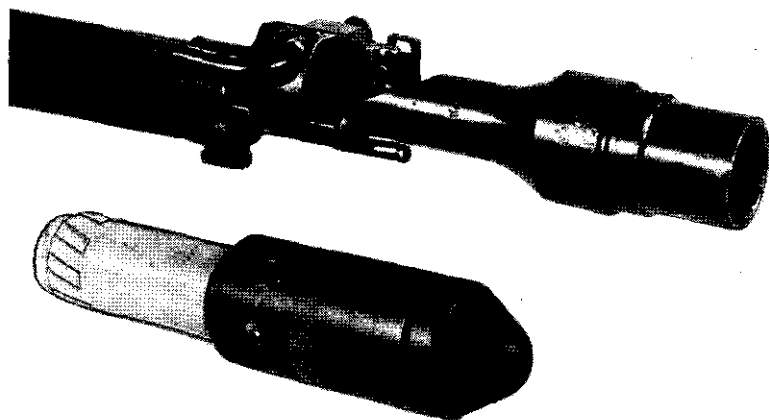
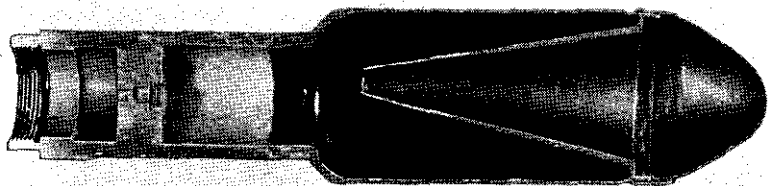

Figure 22.—Armor-piercing rifle grenade and cup-type grenade launcher. (The grenade in this illustration corresponds to the German *gr.G.Pzgr.* type.)
Figure 23.—Cross section of armor-piercing rifle grenade, showing hollow charge. (This grenade corresponds to the German *gr.G.Pzgr.* type.)
(2) *Grenade launchers*.—(a) *General*.—There are two types of rifle-grenade launchers—a cup type and a spigot type. The cup-type launcher (fig. 22) is fitted over the muzzle and locked over the front sight of the rifle. It has a short, rifled barrel, and is a faithful copy of the German cup-type launcher (*Schiessbecher*) used to fire the German rifle grenades (*G.Pzgr.*¹⁴ and *gr.G.Pzgr.*¹⁵
(b) *Cup-type*.—The armor-piercing grenade (fig. 22) for this cup-type launcher works on the hollow-charge principle (fig. 23)¹⁶ and is a copy of the Ger-
¹⁵ *Grosse Gewehr-Panzergranate* (see figs. 22 and 23).